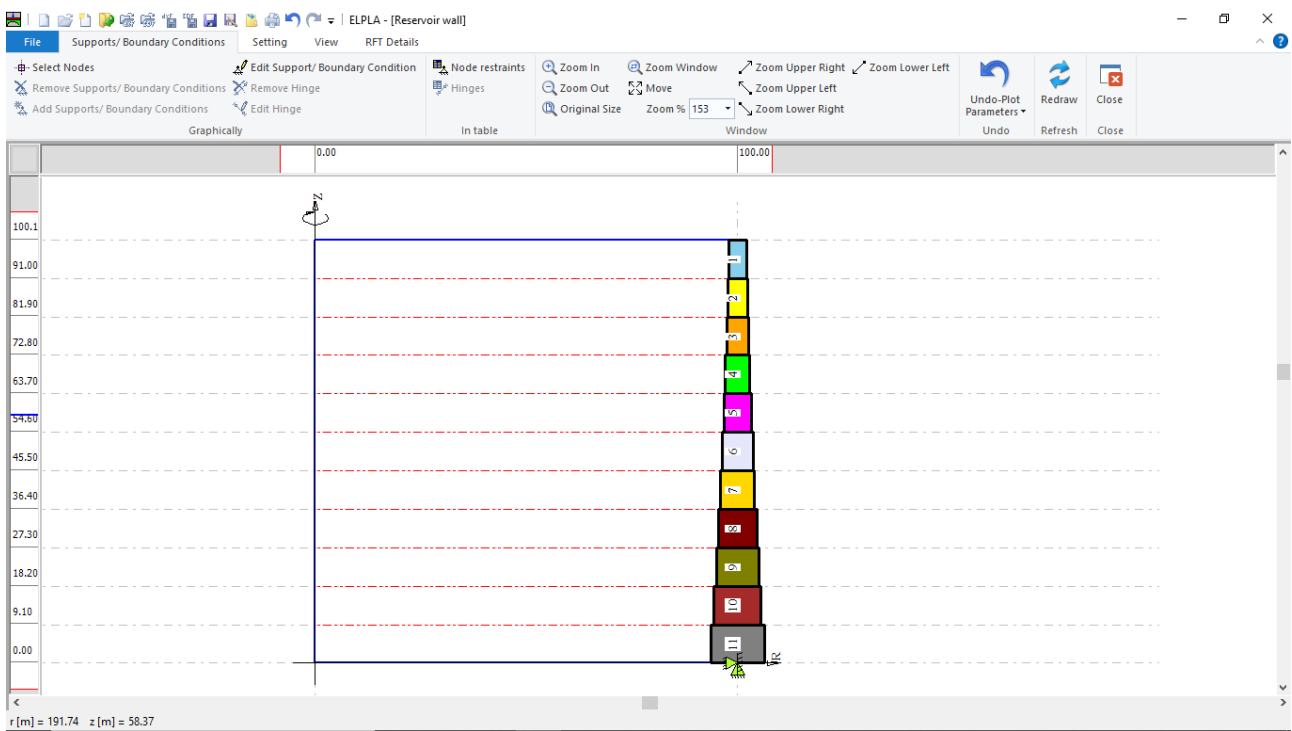

Figure 4.19 Supports on the screen
- Choose "Save " command from "File" menu in Figure 4.19 to save the data of supports
- Choose "Close" command from "File" menu in Figure 4.19 to close the "Supports/ Boundary conditions" window and return to the main window